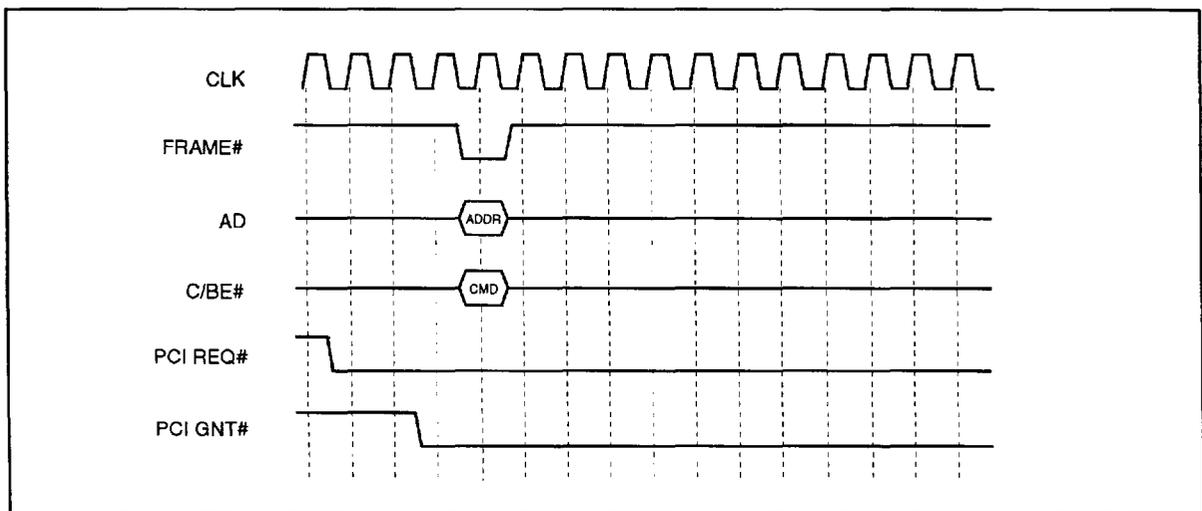

Figure 3-1. Bus Acquisition Timing
Refer to Figure 3-1. Bus acquisition timing cycles are defined by the CBE[3:0]# command lines during the address (AD) phase of each PCI cycle.